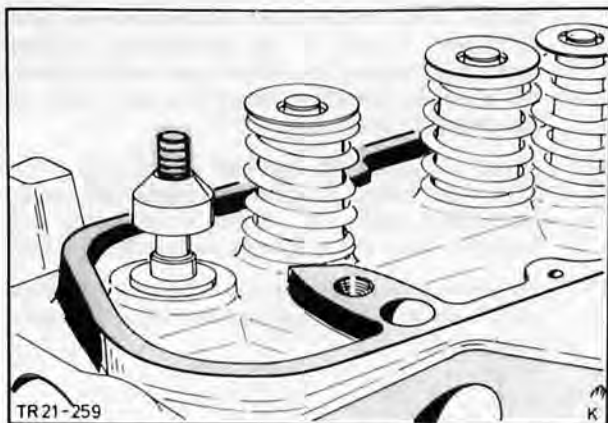

Fig. 149. Slide valve stem seal on valve stem
6. Fit valve stem seals, Fig. 149, remove adhesive foil from valve stem.